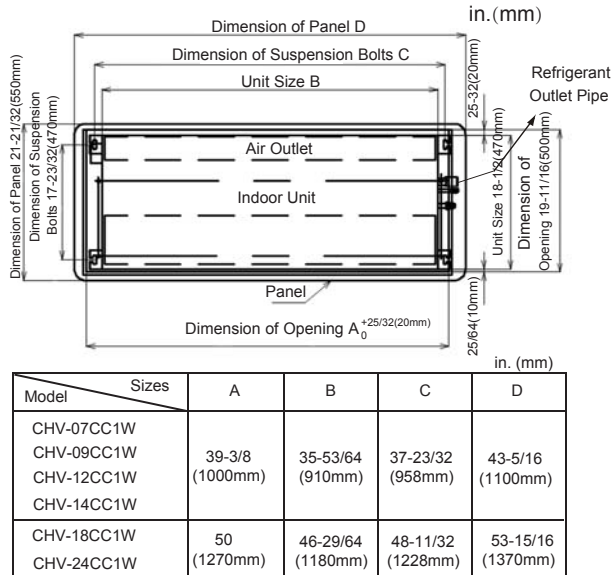

Fig. 4.3 Opening of False Ceiling and Suspension Bolts
- (1) Determine the final location and installation direction of the indoor unit paying careful attention to the space for the piping, wiring and maintenance.
- (2) Cut out the area for the indoor unit in the false ceiling and install suspension bolts, as shown in Fig. 4.3.